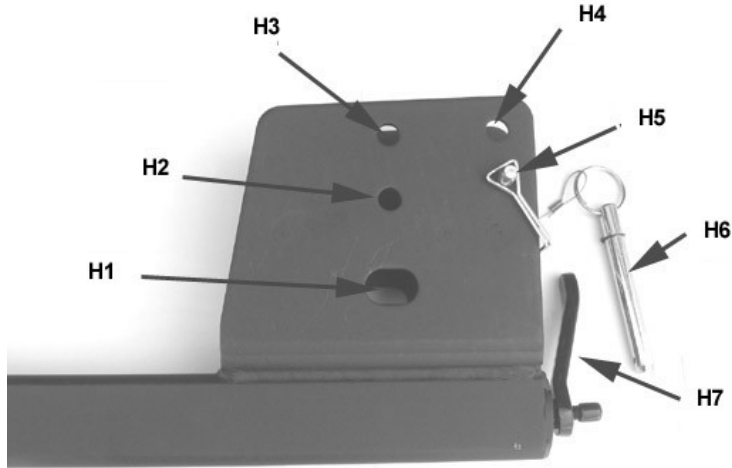

Fig. 5
2. See Fig. 5 and 6: Gently insert Base Assy **B** into the bracket of Receiver tube **H**, aligning holes **H3** with **B2**. The main beam can rest on pin **H5**. There are two plastic washers (**B3**) attached to main beam **B**, please take care not to accidentally knock them off during assembly. Insert bolt **G** with washer **J** through holes, then place the other washer **J** on end of the bolt and hand tighten nut **I**.